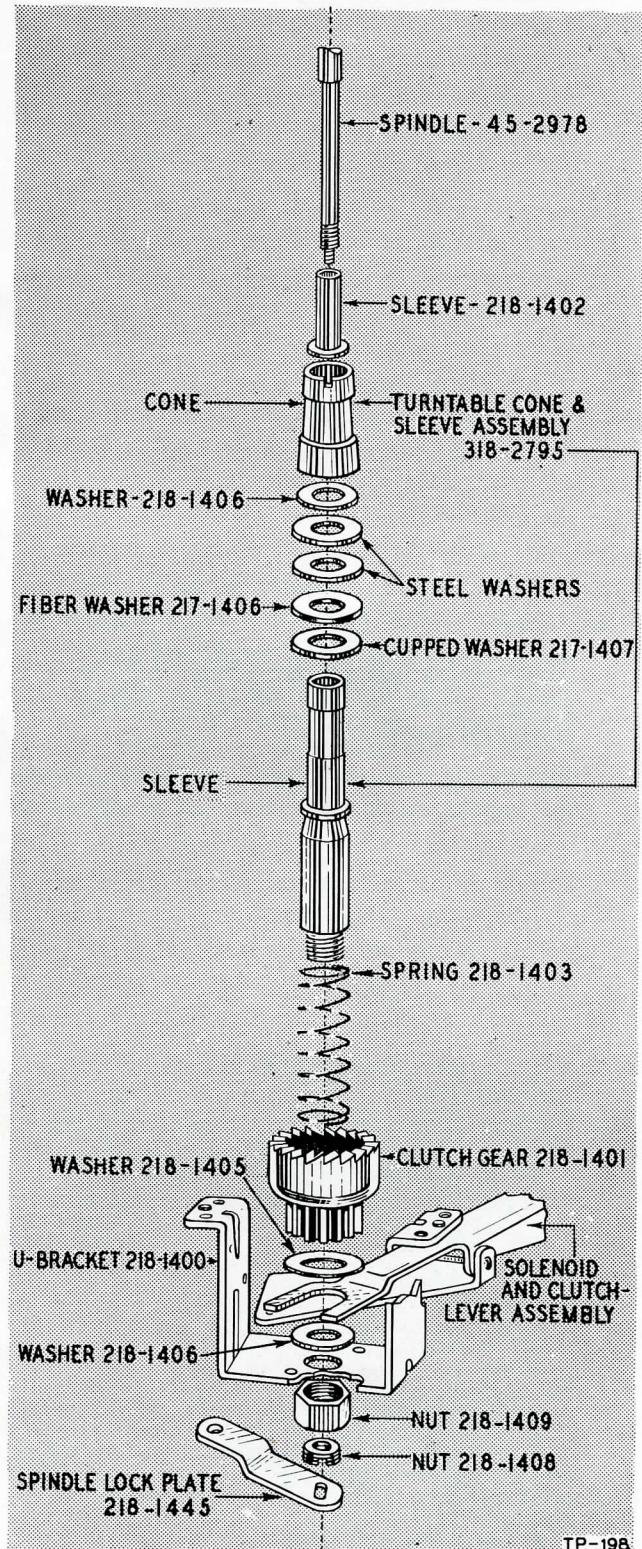

FIGURE 43. SPINDLE ASSEMBLY (EARLY TYPE)
- b. Remove the spindle lock plate, figure 43, and unscrew and remove the spindle with its upper sleeve.
- d. Reassemble the lower spindle sleeve, as shown in figure 43, and fasten with the large nut. Reassemble the washers and brass cone in the correct order.